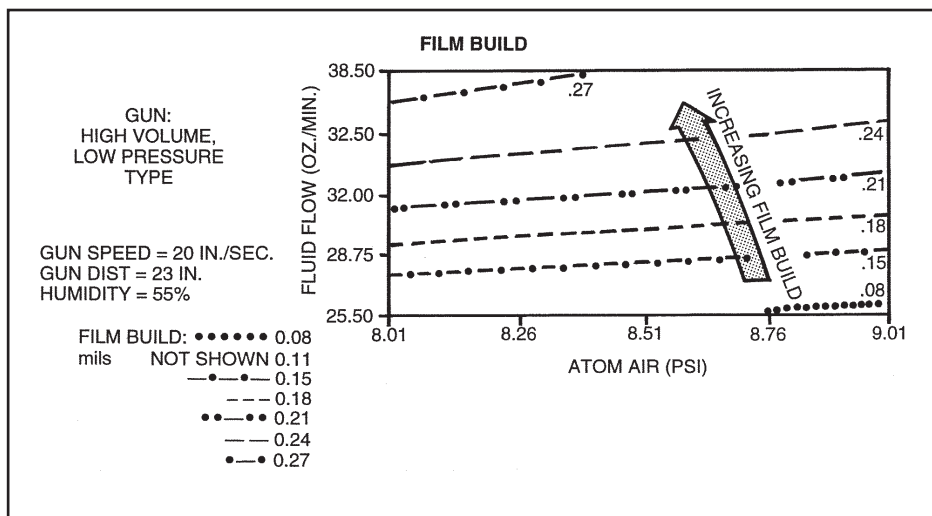

Figure A-3
- This effect is more dramatic with a conventional air-atomizing gun. These relationships are illustrated in Figures A-3 and A-4. The are less dramatic with the dry time decreases that occur with increasing air pressure using a conventional gun (though not illustrated here).